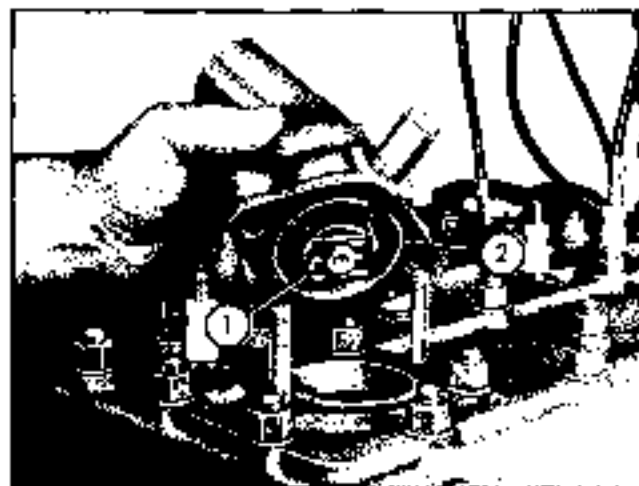

Fig. 1-18
l. Assemble thermostat and adapter in housing as shown in Fig. 1-18, and install on engine, using new gasket.